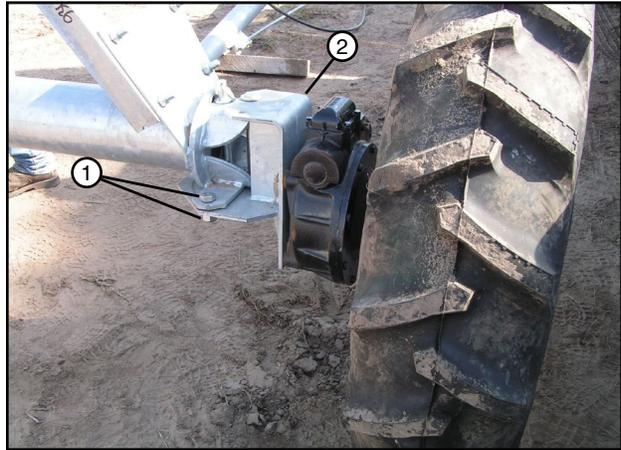

Figure 38-1 1. Towing Position Shown
5. Remove and retain the hardware securing gear box mount in the operation position. See figure 38-1.